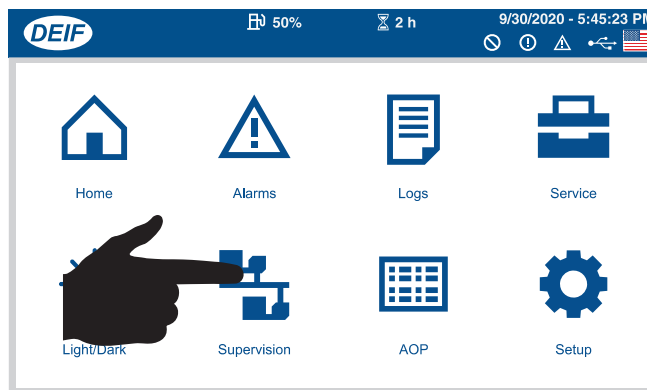

Figure 138. Main Menu Screen (Supervision Button)
28. Verify that the **Main Menu screen** is displayed (Figure 138), then press the **Supervision button**.
11. Verify that the **Main Menu** screen is displayed (Figure 138), then press the **Supervision** button.